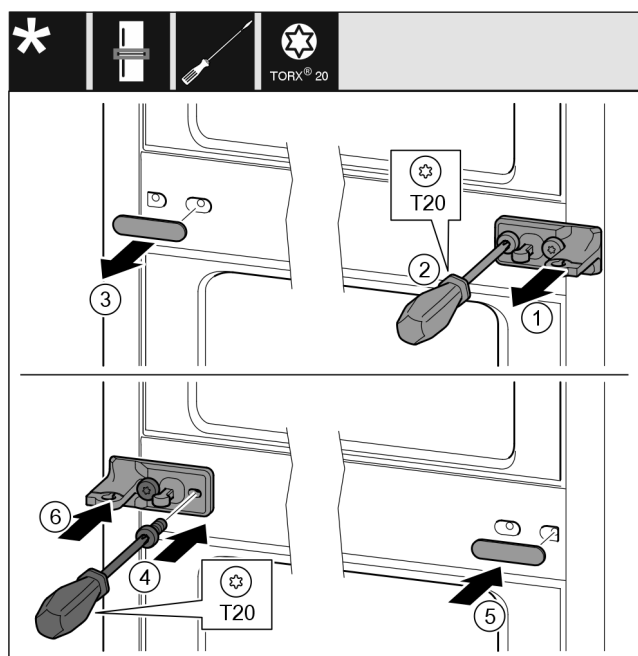

Fig. 34
- ▶ Pull off the washer Fig. 34 (1).
- ▶ Turn out the screws Fig. 34 (2) with the screw driver.
- ▶ Carefully pull off the cover Fig. 34 (3).
- ▶ Tightly screw on the swap bearing block with film Fig. 34 (4) on the other side turned by 180°.
- ▶ Attach the cover Fig. 34 (5) on the other side turned by 180°.
- ▶ Press on the washer Fig. 34 (6) from the front.